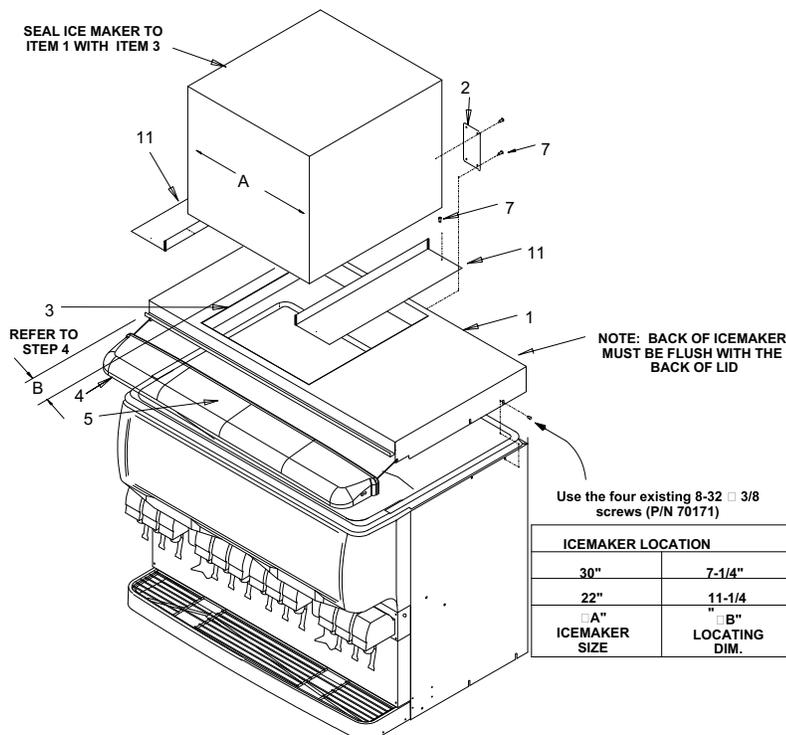

Figure 1. ED/DF300 Kit
5. Seal the ice maker to the top of the dispenser after determining the correct location for the ice maker (see Figure 1).
7. Install the wire form bracket, supplied with the bin stat kit (item 4), through the 5/8" diameter hole in the bottom of the ice maker. Wrap the eye of the wire form over the stud near the hole to the end of the wire form bracket and wrap the tube around the end of the bracket several times, insuring the tube is secure.
8. For 22-inch wide ice makers, locate the lid opening covers (2) (item 11) as shown in Figure 1. Secure the covers to the adapter lid by drilling 0.136" diameter holes into the lid. Use the covers as templates to locate the mounting holes. Secure the covers with the # 10 sheet metal screws.
9. Locate the cleaning caution label (item 5) on the manual ice fill cover (item 4) as shown in Figure 1. Place the manual fill cover in position over the flange on the lid assembly and the front access hopper opening.